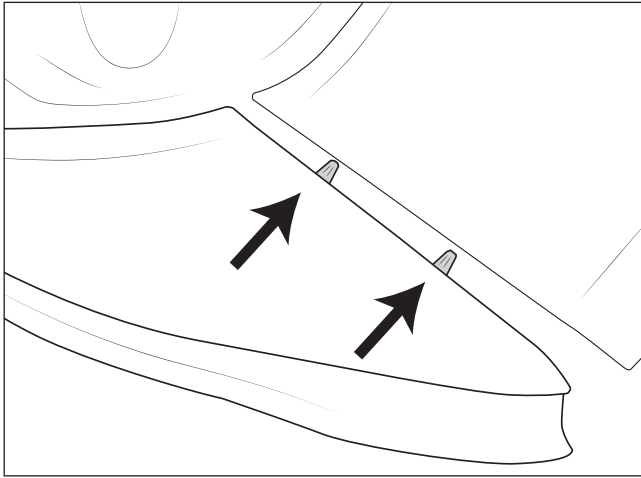

Figure 4
A. Engage the pins on the Headlamp Filler Panel into the fender (fig. 4).